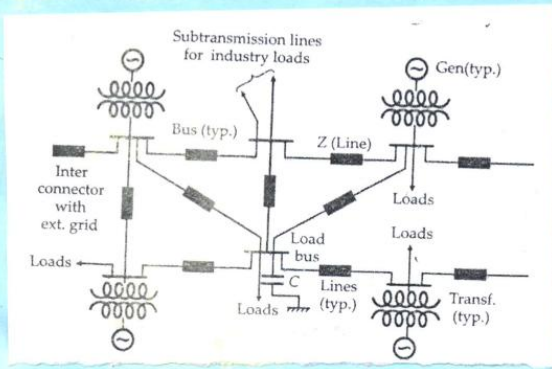

Fig. 1 Typical Mesh-type P & SLM.
- \* A Loop or mesh is shown in fig 1. network nodes are referred as buses. Power SLM has usually generating stations, transformers, transmission lines, loads, interconnectors & compensating devices.